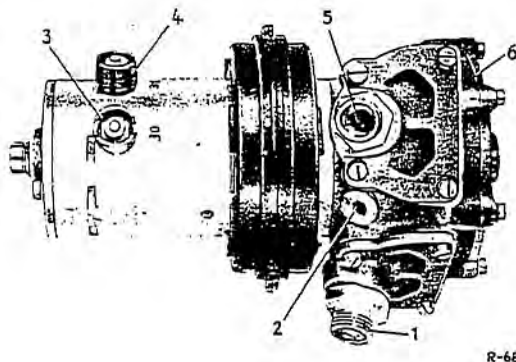

Fig. 00-15/7
If dirt is suspected between the pump cover or housing and the impeller unscrew the pump cover (6) and carefully remove the impeller (with a provisional copper wire hook) (Fig. 00-15/7). Mark the position of the pump cover before removal since it must be reinstalled in exactly the same position as before. Care should also be taken to ensure that the Woodruff key for the impeller is not lost.